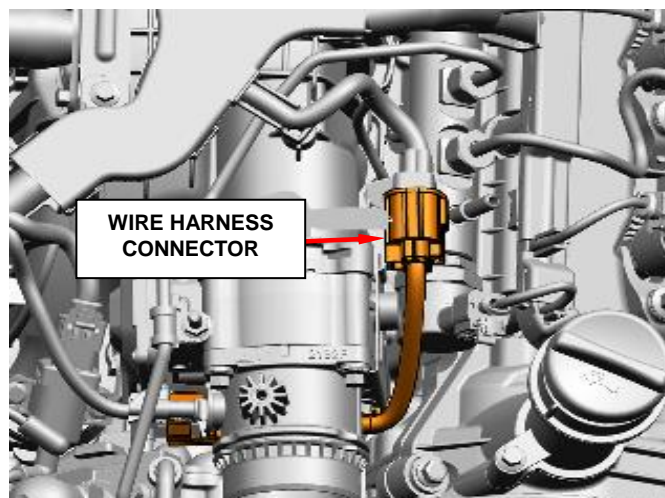

Figure 19 – EGR Connector
24. Disconnect the wire harness connector next to EGR air flow control valve (Figure 19).
15. Connect the wire harness connector next to EGR air flow control valve (Figure 19).